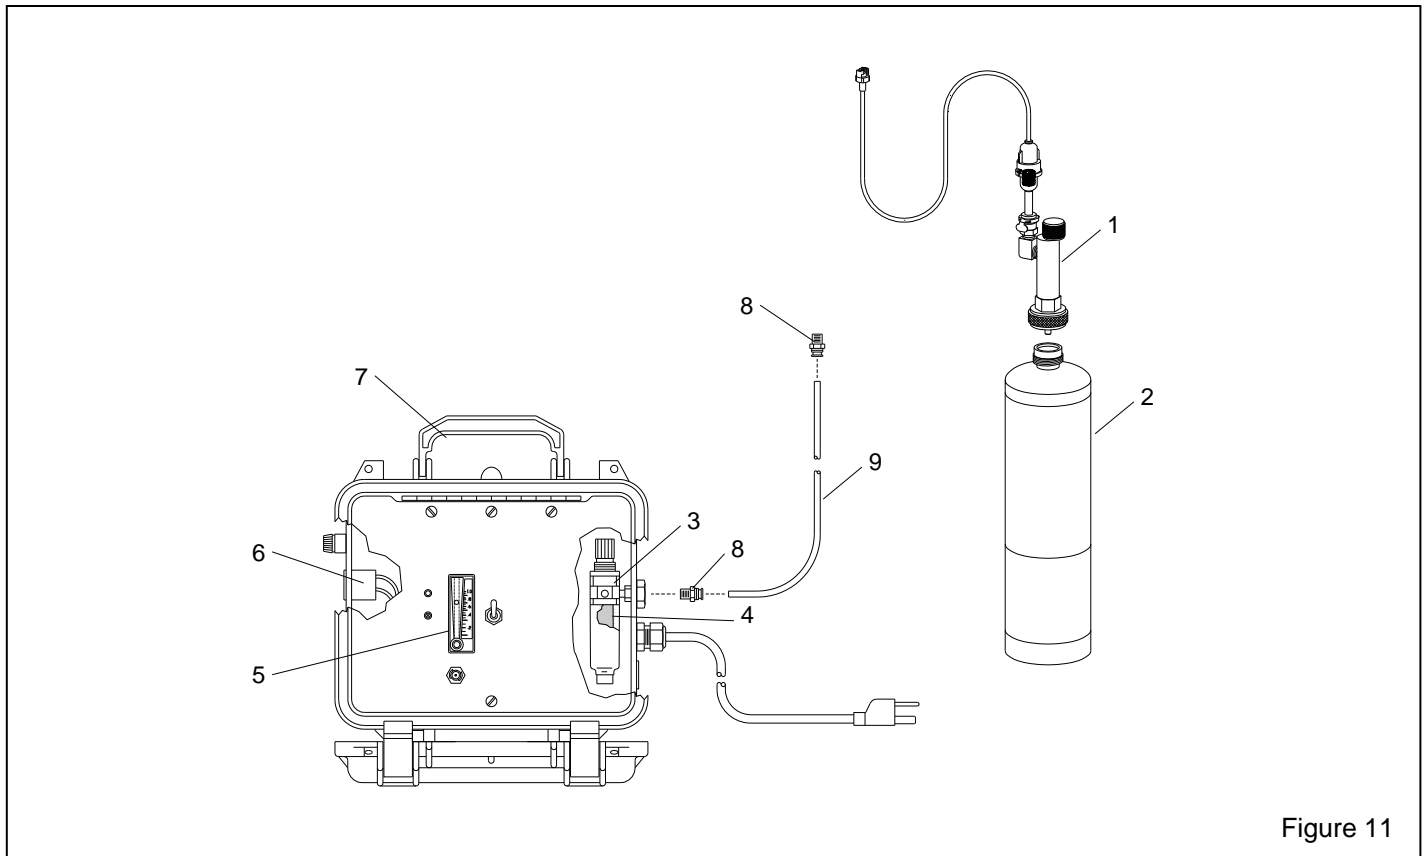

Figure 11
8.2 Replacement Parts, Figure 11